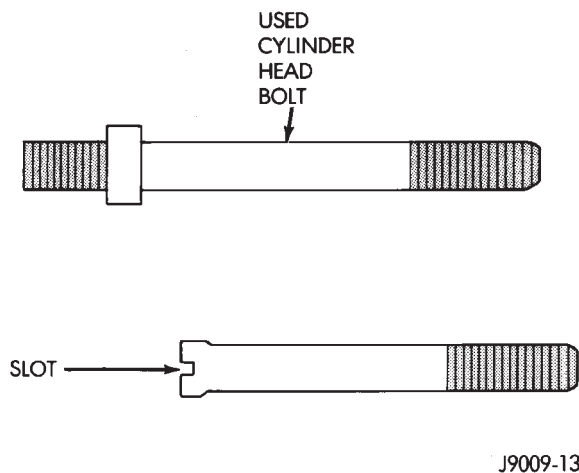

Fig. 33 Fabricate Alignment Dowels
(1) Fabricate two engine cylinder head alignment dowels from used head bolts (Fig. 33). Use the longest head bolt. Cut the head of the bolt off below the hex head. Then cut a slot in the top of the dowel to allow easier removal with a screwdriver.